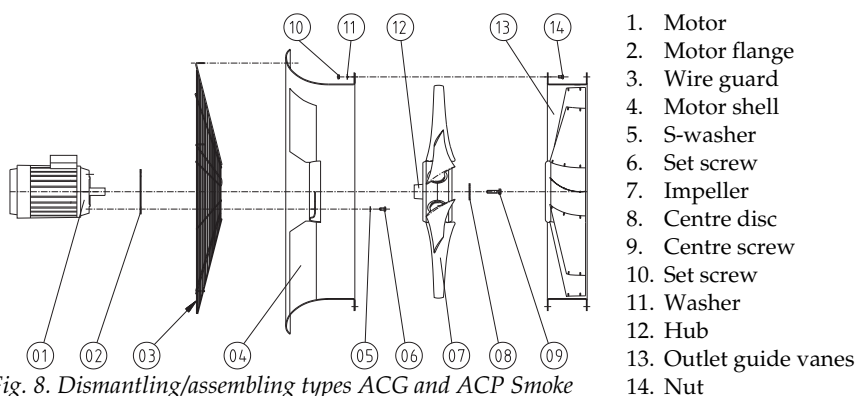

Fig. 8. Dismantling/assembling types ACG and ACP Smoke
Before motor detachment, disconnect the power supply and motor cable. Next, detach the ducts and outlet guide vane (fig. 8 pos. 13, 10, 11, and 14) on the outlet side.
After servicing is complete the motor must be refitted. Check that the motor flange (fig. 8 pos. 02) is correctly positioned and that the motor shaft is concentrically positioned in the fan housing before tightening the bolts (pos. 06).